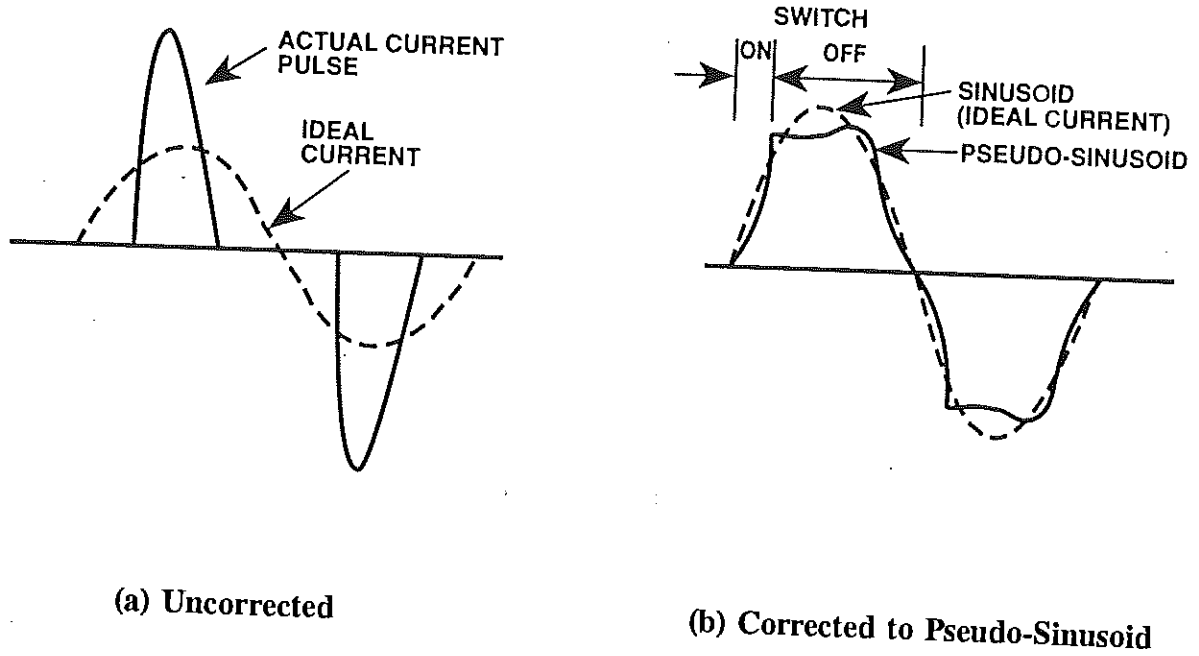

Figure 3. Input Current Waveforms Before and After Power Factor Correction.
- 5.2 **Power Factor Correction.** The front end also incorporates a unique, patented power-factor correction circuit (U.S. Patent No. 4,831,508). This circuit modifies the input current waveform from a series of high amplitude current pulses to a much lower amplitude near sine wave. This substantially reduces the harmonic content of the input current to the power supply. See Fig. 3.